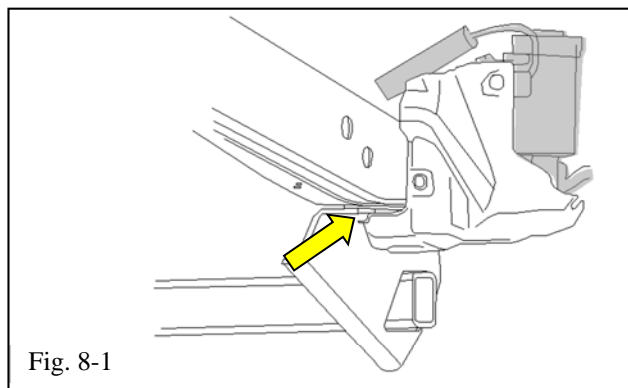

Fig. 8-1
- (b) Reinstall the air suspension compressor cover using the (2) plastic push-pins removed in Step 1(d) (Fig. 8-1).